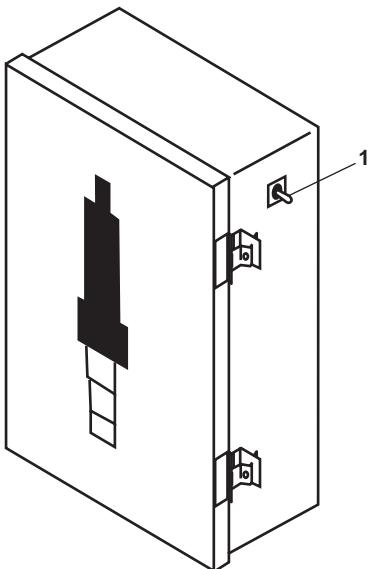

Figure 6. Preheater ON/OFF Switch
1. Position all preheater ON/OFF switches (figure 6, item 1) to OFF.